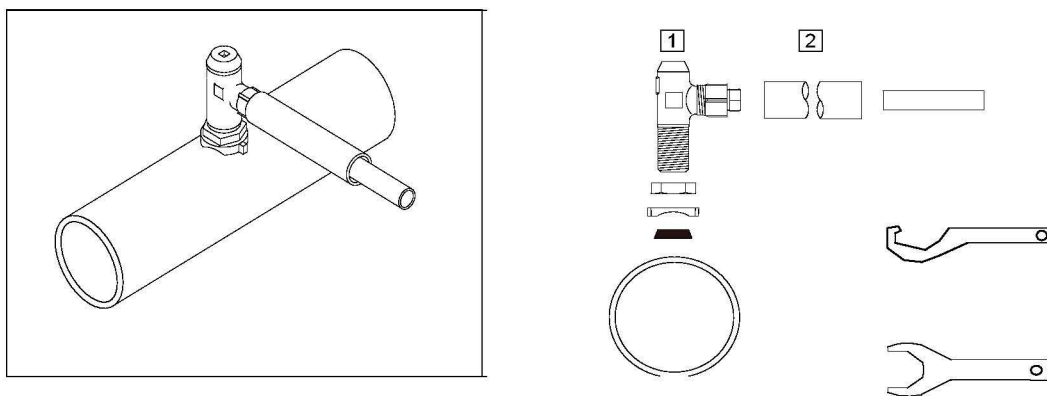

Figure A22 - PE service entry top tee & 'C' fixing spanners
1. Insert the service pipe into the tee and complete the joint. An anti-shear sleeve shall be fitted. Unscrew and withdraw the retaining rod and pressure test service using a 1" flexible adaptor or coupling on the spindle end. Figure A22.